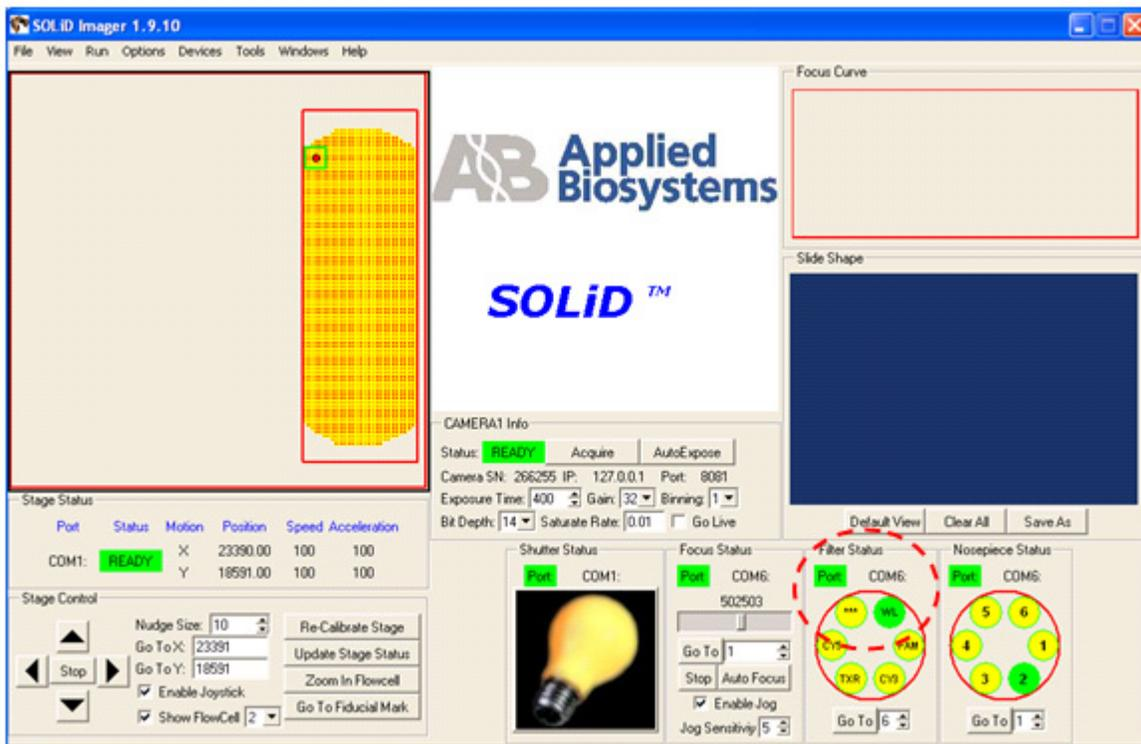

Figure 72 Click **WL** (white light) to set the Filter Status.
1. Set the Filter Status to **WL** (white light; see Figure 72).